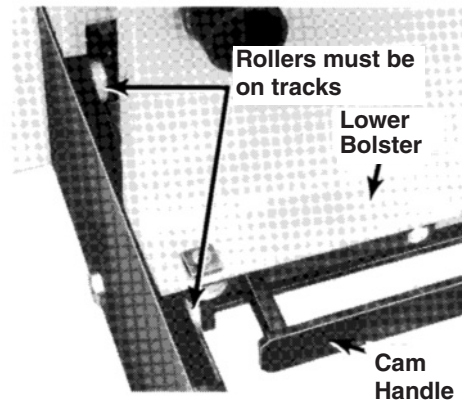

FIGURE 4
5. Leave the banding straps around the roller assemblies on the front and back lower bolster assembly until the bolsters are positioned on the press. Place the bolsters in position. The rollers on each end of the bolster must be on the tracks. See Figure 4.